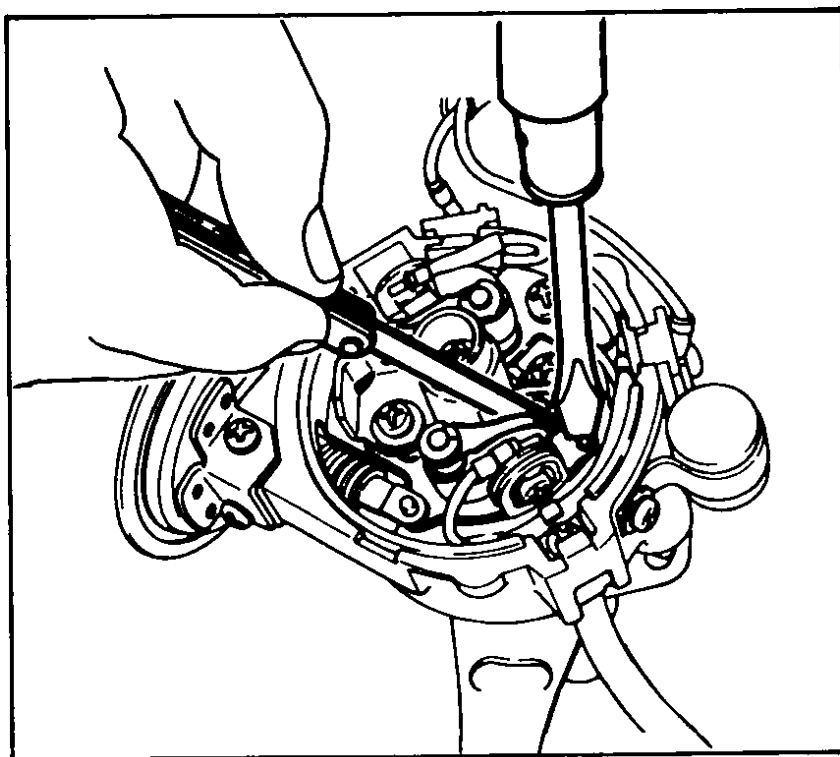
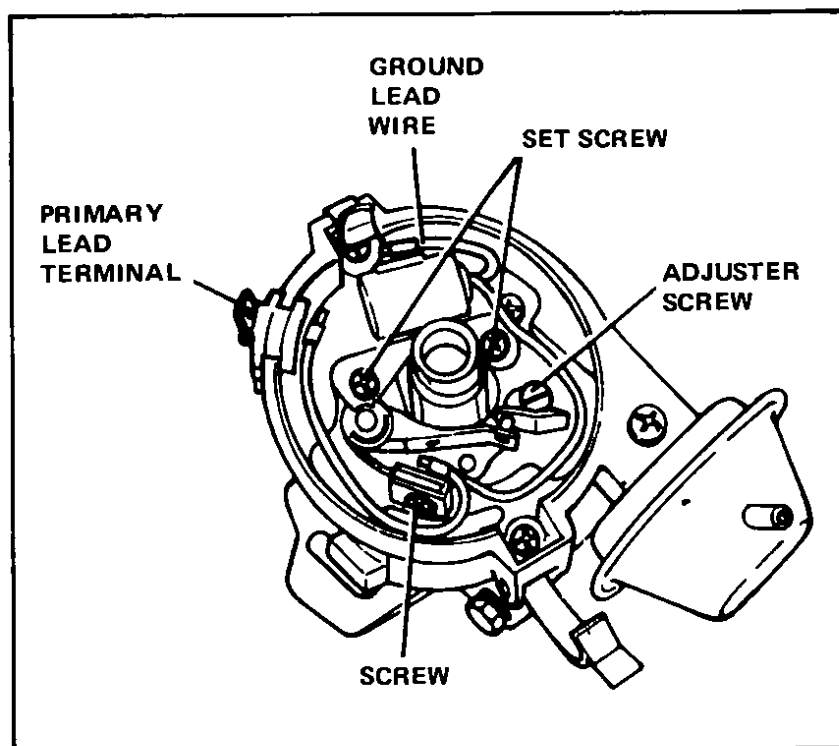

Fig 32 Setting ignition points
Fig 33 Inside the distributor
- 3 Unfasten the old points and condenser. Refer to Fig 32 for location of various parts. Be careful not to drop any screws or other hardware, you will need them to install new points.
- 7 Referring to Fig 32, use a clean, flat-bladed feeler gauge of the size listed in the tune-up chart at the end of this section. Place it squarely into the gap. Adjust the opening to the proper dimension and tighten the adjuster screw, in Fig 33).